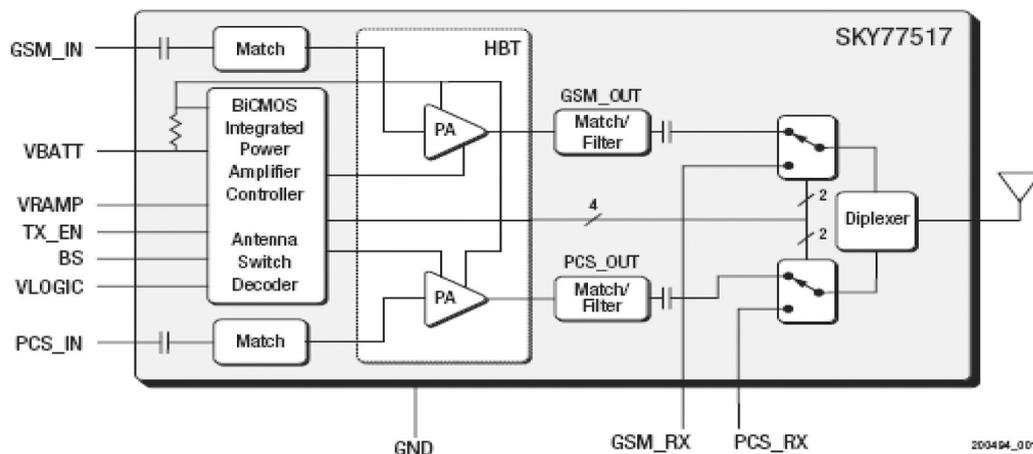

Figure 3.1.1 Functional Block Diagram
Band selection and control of transmit and receive modes are performed using two external control pads. Refer to the functional block diagram in Figure 3.1.1 below. The band select pad (BS) selects between GSM and PCS modes of operation. The transmit enable (TX_EN) pad controls receive or transmit mode of the respective RF switch (TX = logic 1). Proper timing between transmit enable (TX_EN) and Analog Power Control (VRAMP) allows for high isolation between the antenna and TX_VCO while the VCO is being tuned prior to the transmit burst.